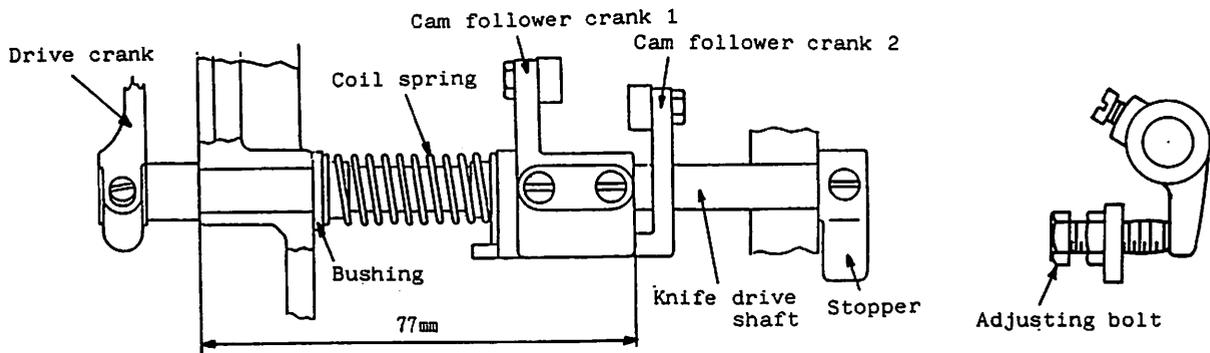

Fig. 11.6
- (1) The standard installation of the knife drive mechanism is shown in Fig. 11.6.
- (2) When the knife drive mechanism is assembled, pass the knife drive shaft through the drive crank first.
- (3) Secure the cam follower crank (1) to the knife drive shaft in position shown in Fig. 11.6.
- (4) Secure the stopper so that the knife drive shaft has no play in the axial direction, and can rotate smoothly.
If the position of the cam follower (2) is shifted, when the stopper plate is removed, for example, it should be adjusted by the adjusting bolt shown in Fig. 11.6 and then the steps (1) - (3) should be accomplished.